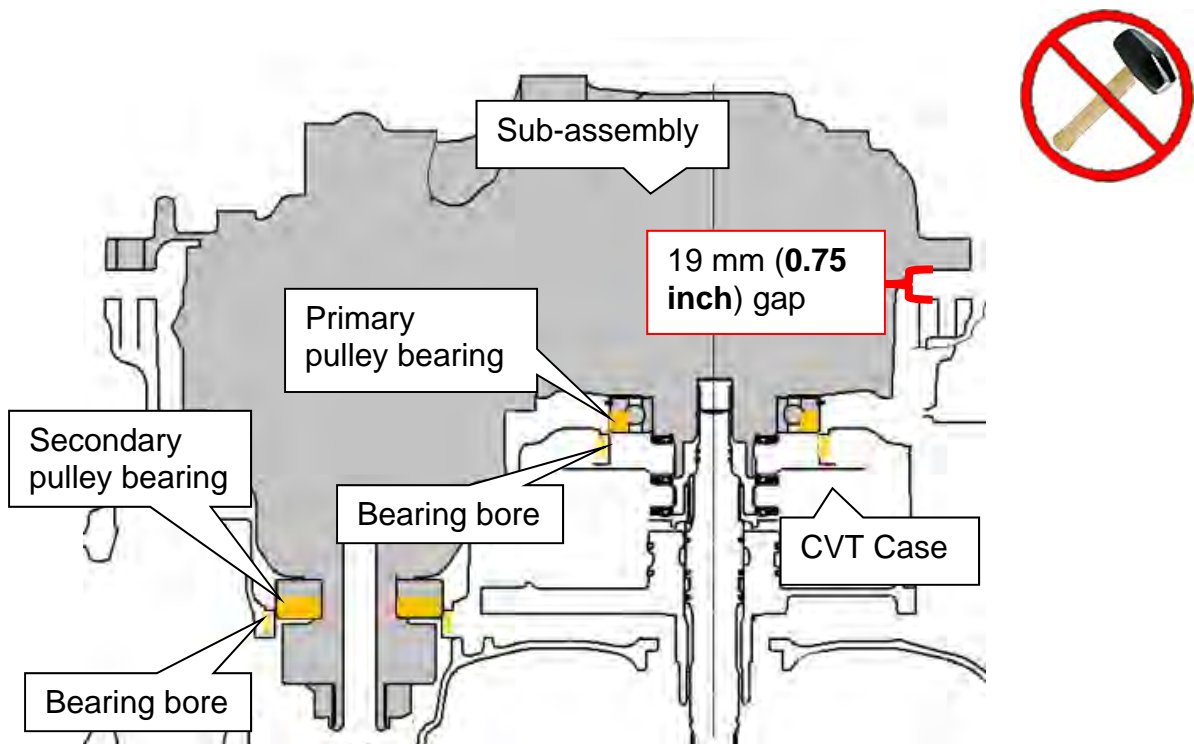

Figure 104
- If the primary and the secondary pulley bearings do not align properly with their bores (Figure 104) or are at an angle, a **gap of 19 mm (0.75 inches)** may be present.